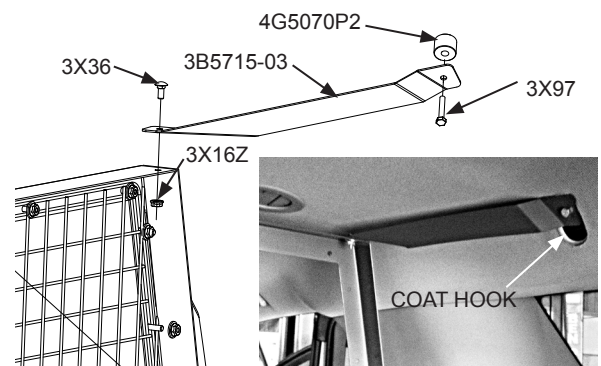

Fig. 3
- D. Install the upper mounting bracket 3B5715-03 to the barrier using the provided 3X36 carriage bolts and 3X16Z whiz nuts through the mounting hole located in the top of the barrier (Fig. 3). Hand tighten only. Repeat process for the drivers side of the vehicle using bracket 3B5715-02.
- E. Align bracket 3B5715-01 with the coat hook mounting hole on the passenger side of the vehicle and secure using the provided 3X97 bolt and spacer. Repeat process for the drivers side, with bracket 3B5715-02 (Fig. 3). Refer to the last page for part description.